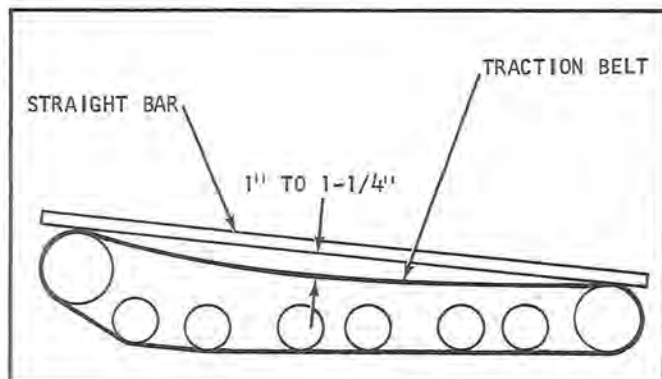

Figure 16
- Rest a straight bar (figure 16) of sufficient length along the top surface and near the edge of the track. Insert the straight bar through the back end of the snowmobile and check for proper 1 to 1-1/4-inch sag. Repeat procedure on opposite side and note the difference, if any, in the track tension.